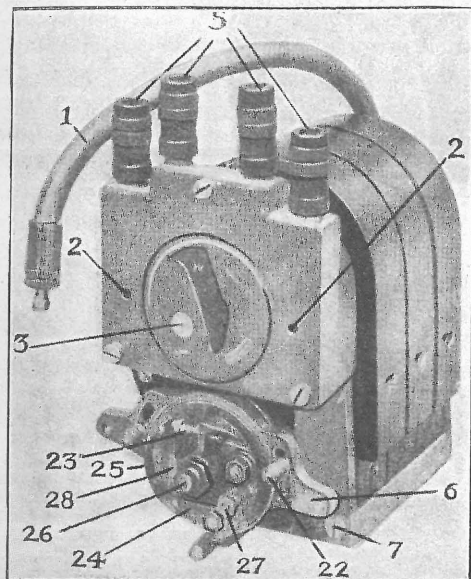

Fig. 3—A high-tension magneto, showing contact-breaker and high-tension distributor.
In Figs. 3 and 4 is shown an actual magneto—the "Eiseman"—with its parts numbered. It is intended for a four-cylinder engine. In Fig. 3 can be seen a metal cap and nut (26), to which the insulated end of the armature primary is connected. From here the current is led to the platinum make-and-break contact (23), which in the ordinary way makes contact with an "earth" connection. The other